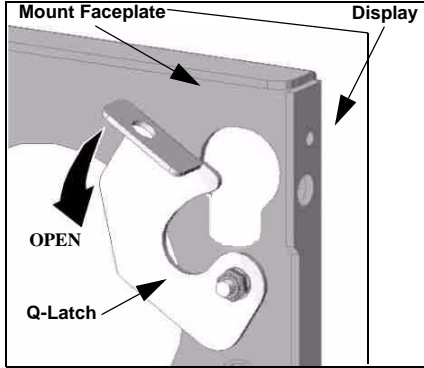

Figure 10: Open Q-Latch
1. Make sure the latch is in the "open" position so it will not obstruct display installation (see figure 10).